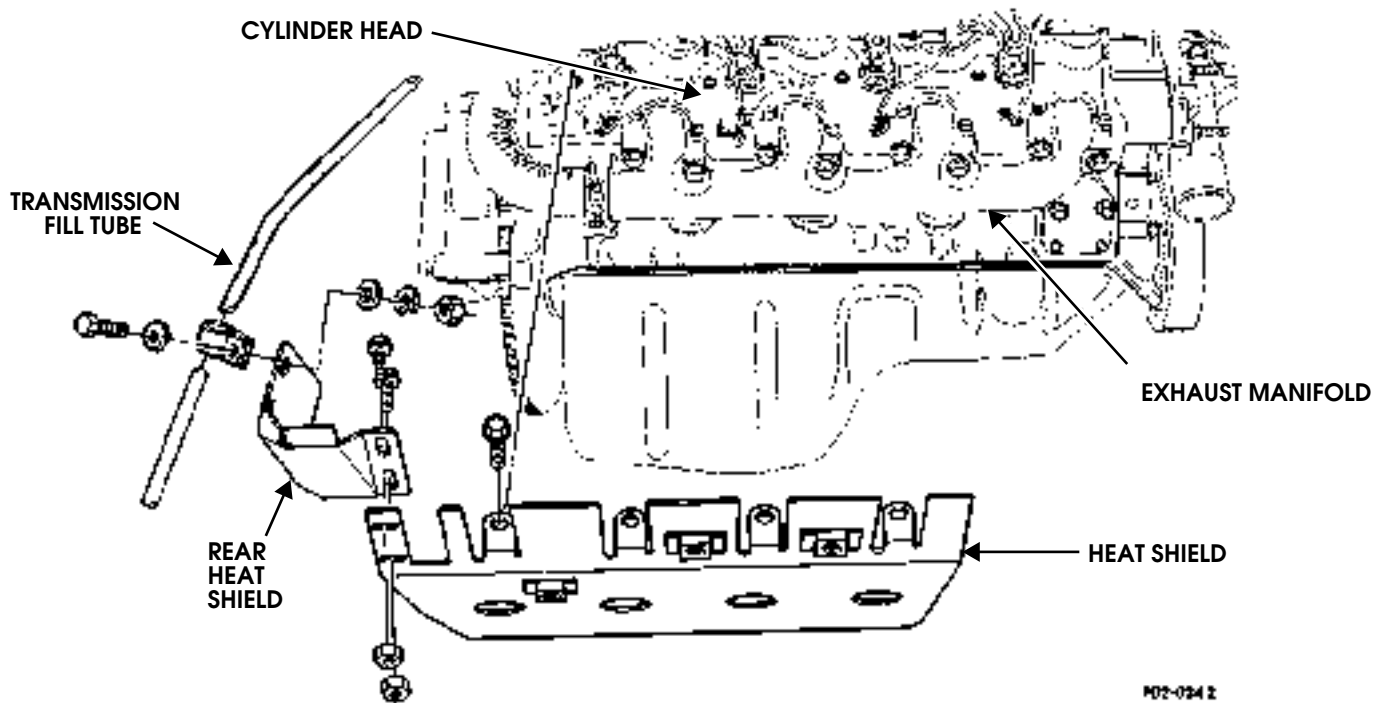

Figure 2-38: Right Exhaust Manifold Heat Shield
2. Remove right exhaust manifold rear heat shield screws and locknuts (Figure 2-38).